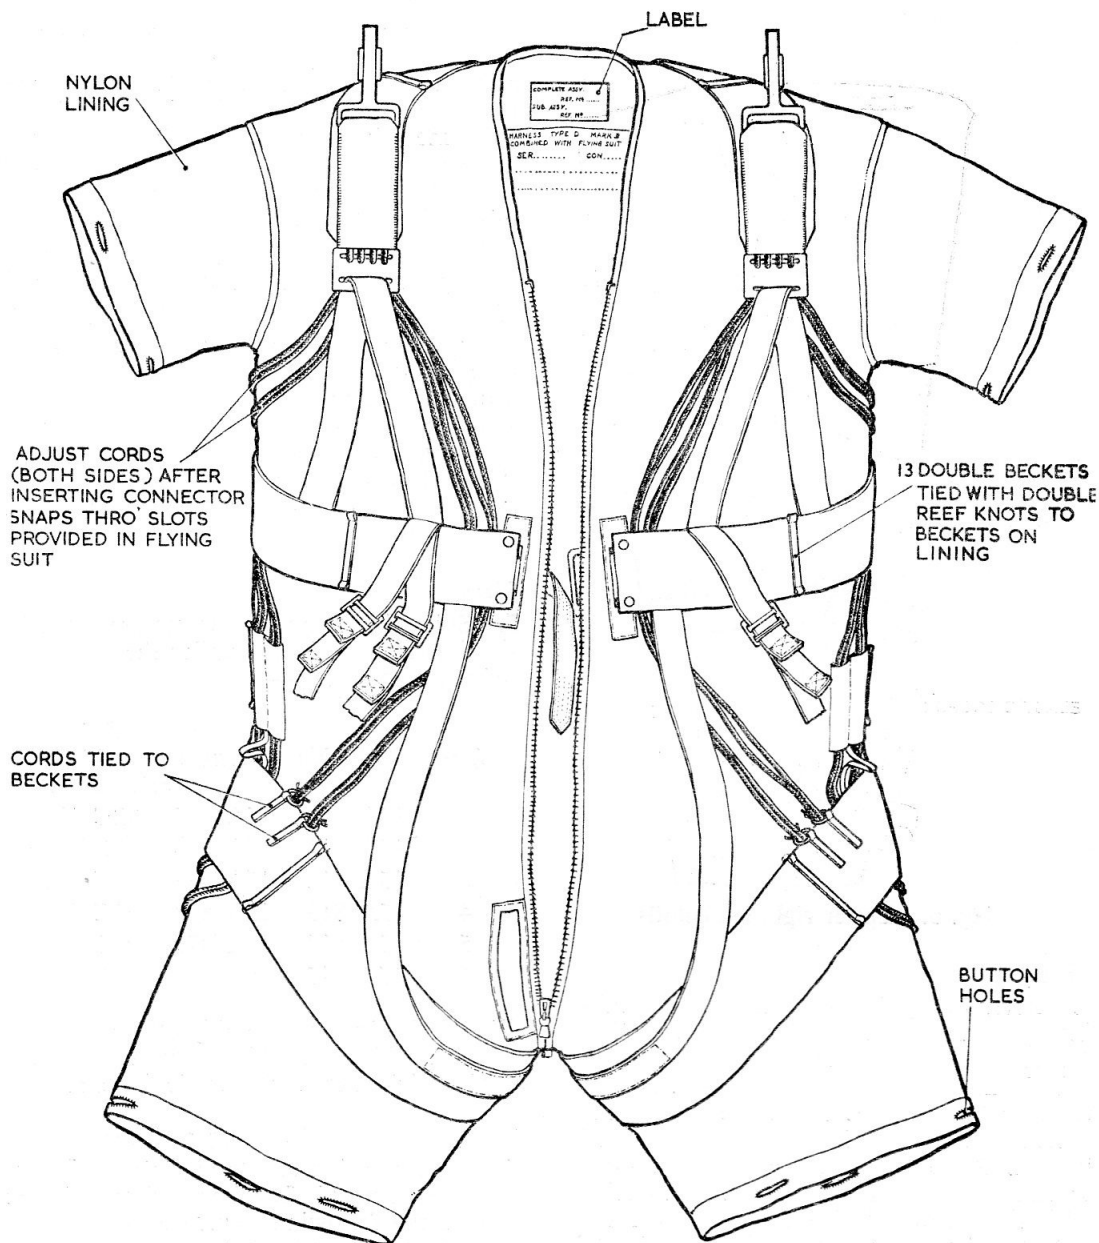

Fig. 6. General arrangement of lining and harness
3. Refer to fig. 6. The lining is a trunk-fitting garment made from nylon. The front is open from crotch to throat and each side is fitted with the chain of a sliding fastener to enable it to be secured to the matching chain on the short flap described in para. 2. The sleeves and legs are short and have buttonholes in the hems to coincide with the buttons inside the suit. On the outside of the lining are thirteen pairs of beackets which are provided so that the lining can be tied to the suit.
4. The harness (fig. 6) consists of eight lengths of 700 lb. nylon cord and nylon webbing cross strap and waist belt, back strap and leg straps. Nylon restraining straps 1 in. wide connect the seat strap and waist belt and prevent the latter from riding up on the wearer as the loads are taken when the canopy develops. Special shoulder adapters, in which there are four slots each